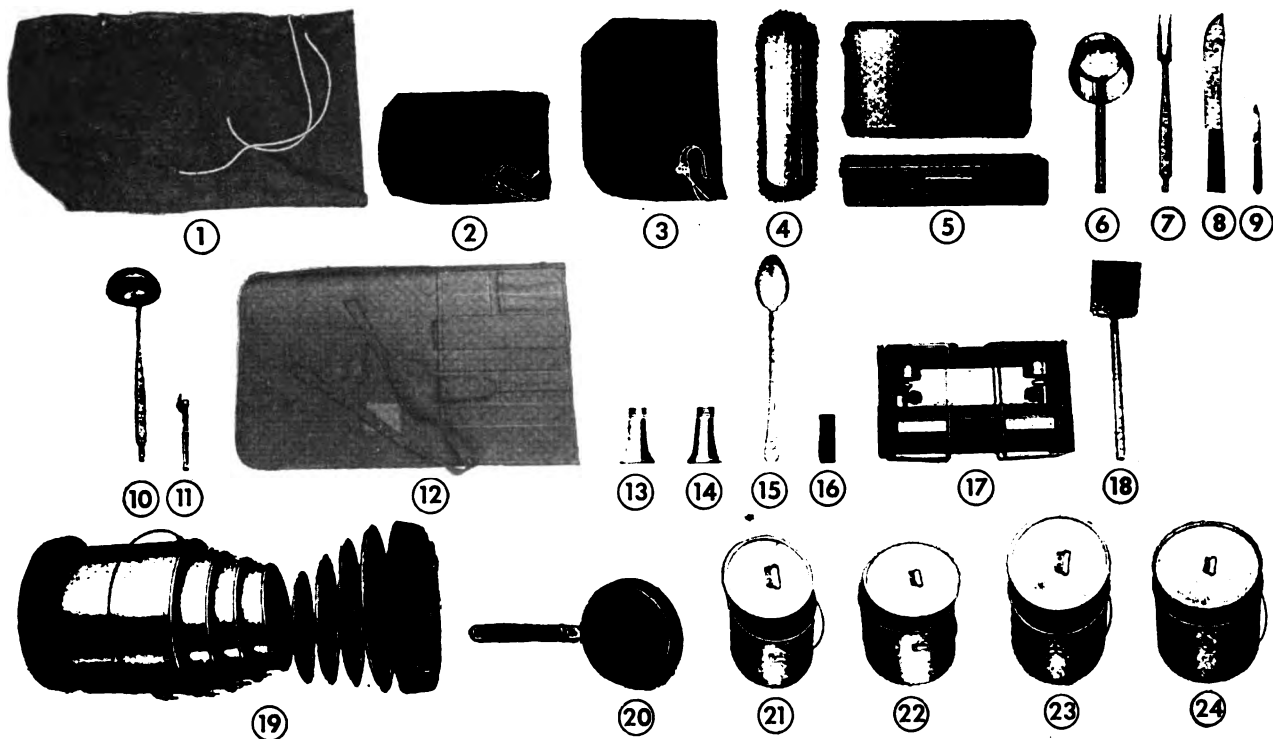

Figure 14. Outfit, cooking, 20-man (64-O-300).
*a. COMPONENT PARTS.* This outfit (see fig. 14) consists of the following items: